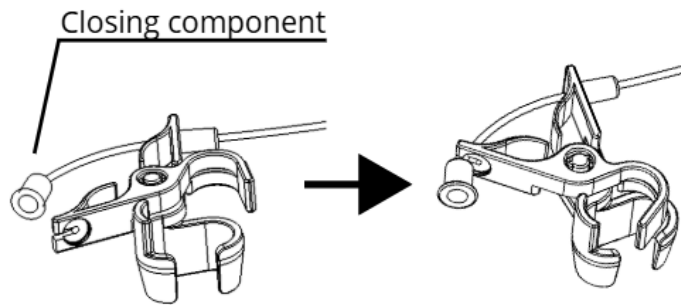

Fig. 8
7. Put closing component in place. (See Fig. 8).